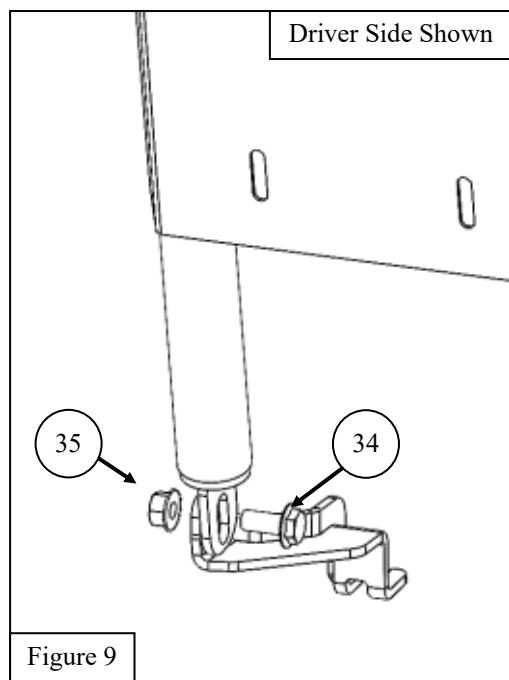

Figure 9
12. Loosely attach it to each Bottom Bracket using the supplied M10 hardware See **Figures 9 & 10** for reference.